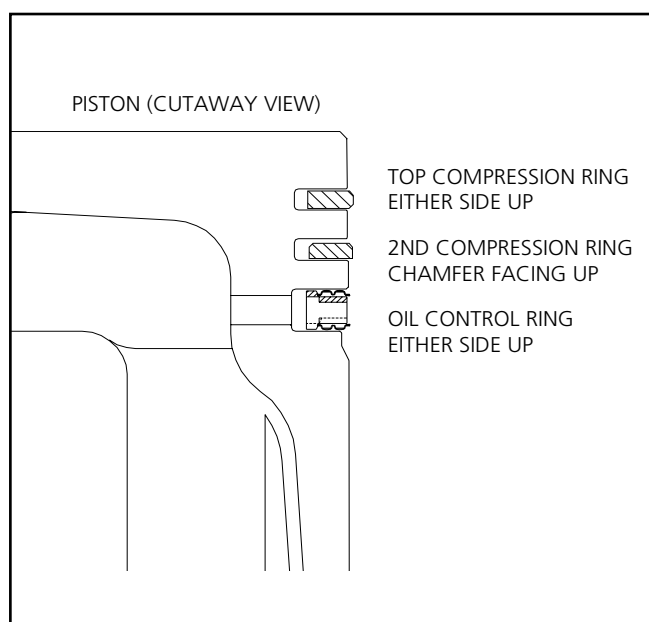

Figure 12-4. Location of Rings in Piston Grooves
1. Install the rings (Figure 12-4).